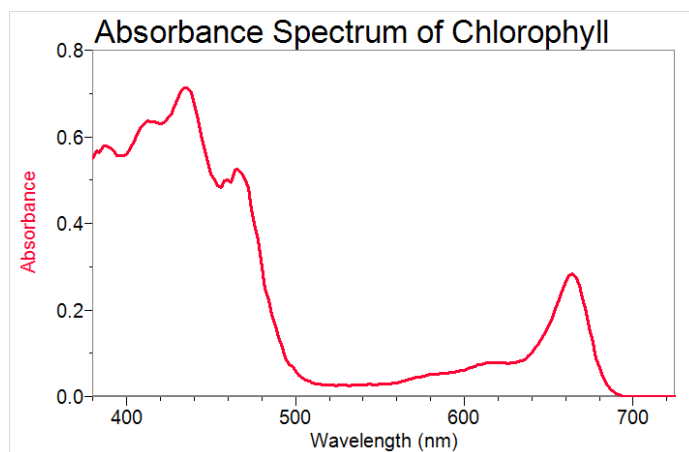

Figure 1.
2. Compare the absorbance spectra of the three grades of olive oil with the sample graph in Figure 1. What evidence is there that regular and extra virgin olive oil contain chlorophyll while the light grade of olive oil does not?
Introduction: spectroscopy In this experiment you will become familiar with different features of commercial ultraviolet-visible (UV/vis) spectrophotometers. The prefixes *ultra* and *infra* mean above and below, respectively. Hence, the energy of ultraviolet radiation lies just above the visible violet light (i.e., *ultraviolet means above visible violet light in energy*). Likewise, *infrared means below visible red light in energy*. Because the energy range for a typical UV analysis is right next to the energy range of visible light, many instruments, including ours, operate in both the UV and visible regions. In this lab period, you will learn how to prepare samples for analysis and how to obtain data from the UV-Vis instrument. The samples are compounds that might be found in explosives. They are nitroaromatics or compounds that contain nitro groups (-NO₂) bonded to an aromatic ring. In this case, the aromatic ring is toluene. You will examine the output of the instrument in the wavelength region between 200 and 900 nm (nanometers). One nanometer is 1 x 10⁻⁹ meter. **Background Theory for UV Absorption**¹³ In terms of energy, the IR region lies below the visible region, which lies below the UV region. Thus, IR is strong enough to cause atoms within a molecule to vibrate, but not strong enough to cause electrons to change orbital locations. UV radiation between 200 and 400 nm is strong enough to cause loosely held electrons to change locations. These electrons can be either the non-bonding electrons (*n*-electrons) of aldehydes or ketones, or they can be the π -electrons of conjugated π - systems. **Figure 1** shows typical structures of compounds that contain *n*-electrons.